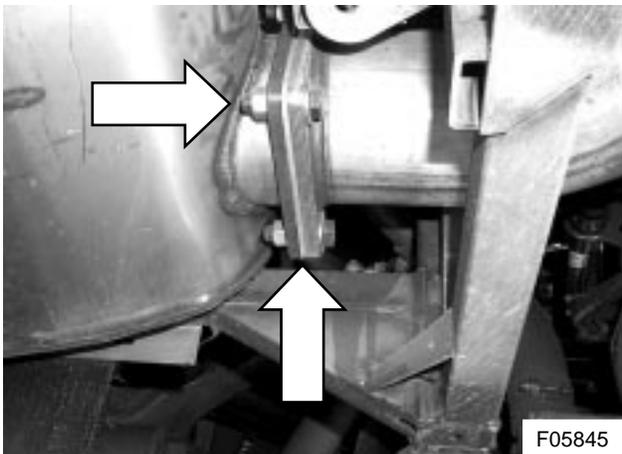

Figure 4: Muffler elbow mounting bolts (2 shown)
- 2) Loosen and remove the four bolts and nuts securing the muffler elbow to the muffler (see Figure 4).